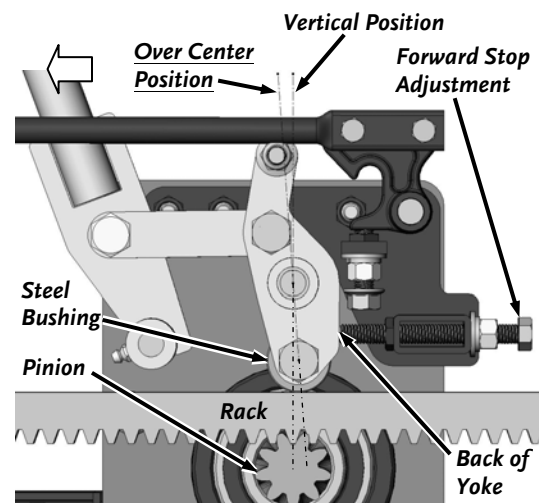

Figure 46
5. Lift the Safety Interlock Lever and push the Engagement Handle forward to position the Steel Bushing Yoke as close to vertical as you can and hold it there (**Figure 46**).